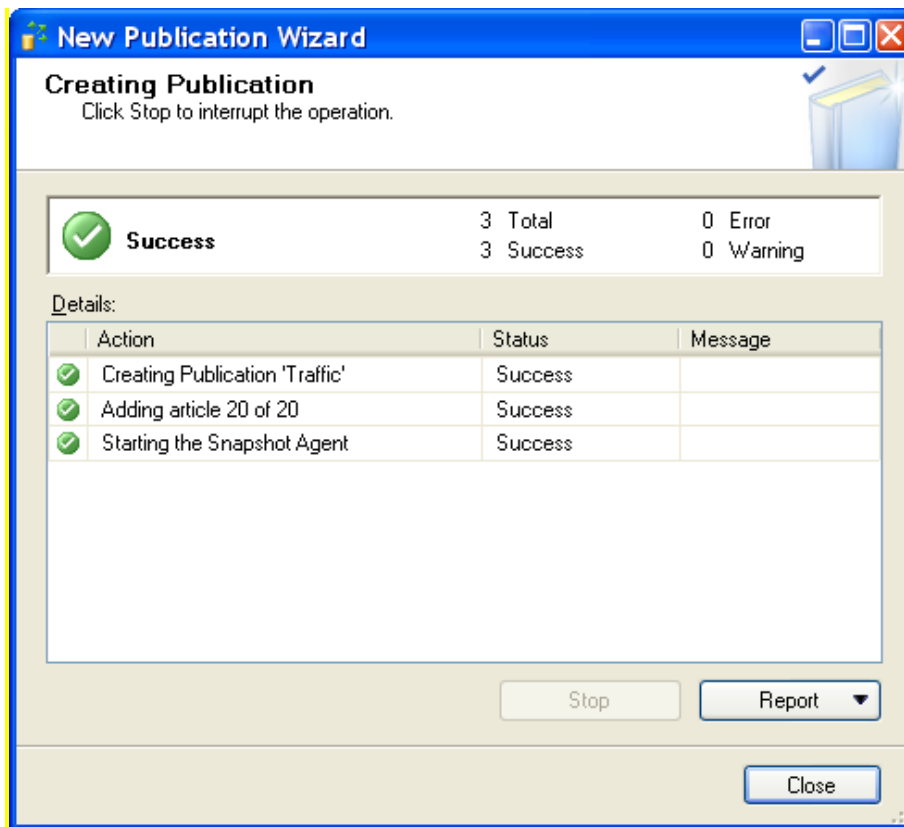

Fig. 9.3-11 Tasks performing status
10.16. In the opened window «Creating Publication» there will be displayed the process of tasks performance while creating a new publication (Fig. 9.3-11).